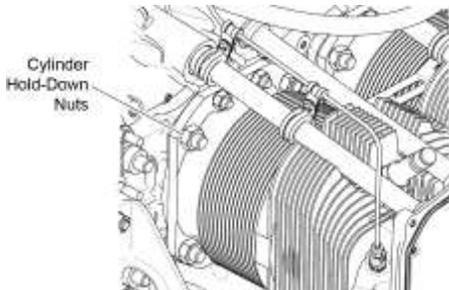

Figure 16
- O. Remove the cylinder base hold-down nuts (Figure 16).